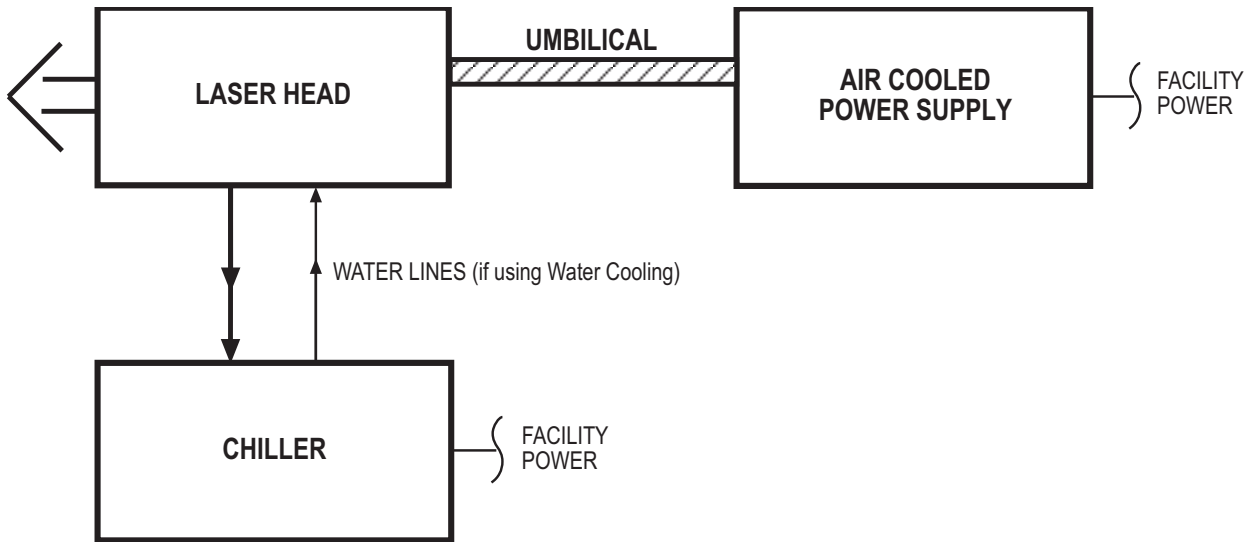

Figure 1-6. Interconnect Diagram
3. Cut the user-supplied cooling water lines to the appropriate lengths and use the water line hardware (Figure 1-1, item 9) to connect the riser/heat sink to the chiller (Figure 1-6). Apply teflon tape to the hardware threads and install the washers from the installation kit over the threads when connecting the stainless steel ferrule to the riser/heat sink. Check the system for leaks.